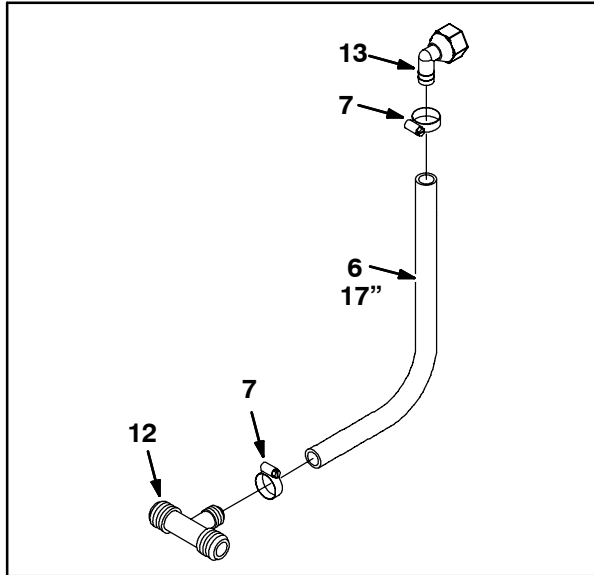

FIG. 1
1. Cut a 17" section of hose from the 96" PVC hose (6). Set the remaining 79" of PVC hose (6) aside.
2. Use a hose clamp (7) to attach a 90° plastic fitting (13) and the plastic t-fitting (12) to the 17" PVC hose (6). Refer to Fig. 1.